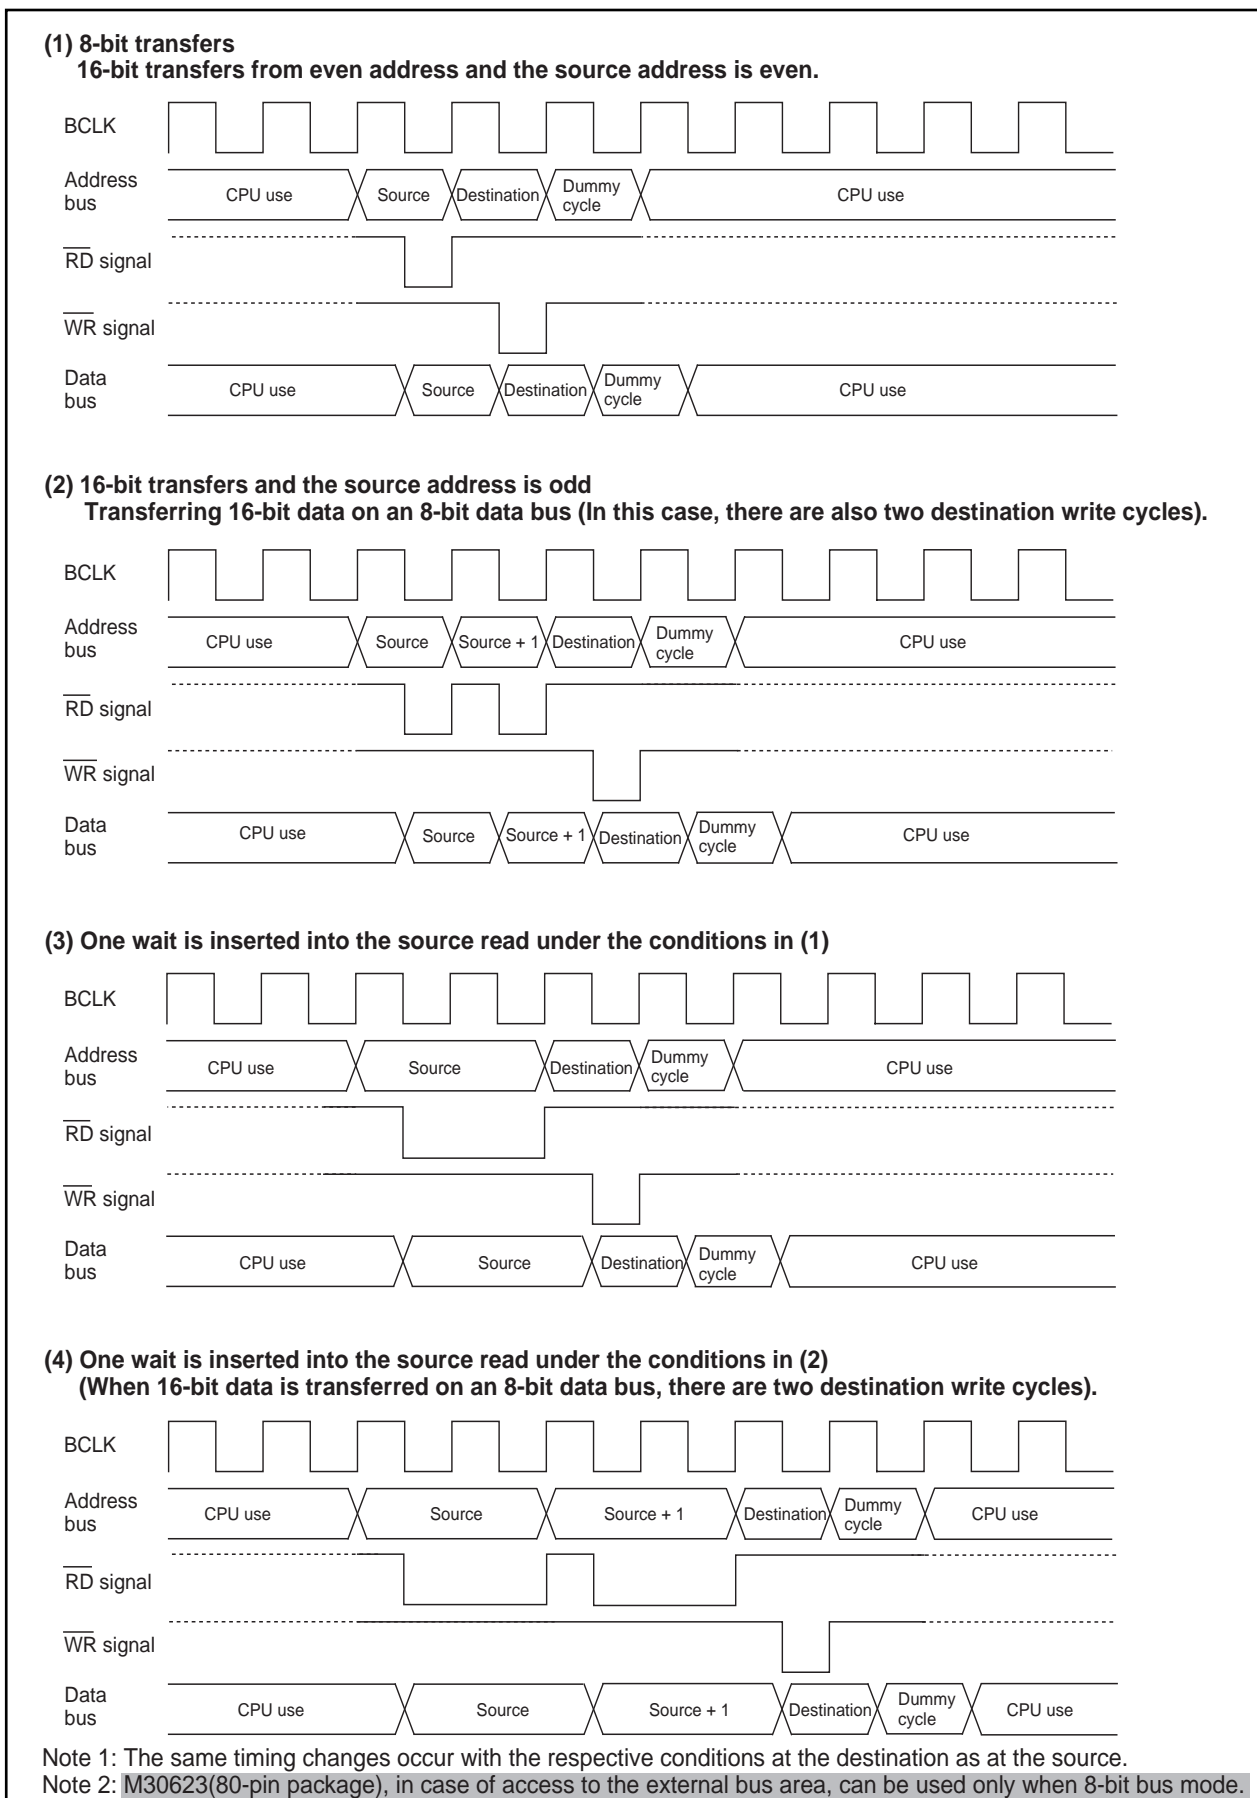

Figure 1.16.5. Example of the transfer cycles for a source read
Figure 1.16.5 shows the example of the transfer cycles for a source read. For convenience, the destination write cycle is shown as one cycle and the source read cycles for the different conditions are shown. In reality, the destination write cycle is subject to the same conditions as the source read cycle, with the transfer cycle changing accordingly. When calculating the transfer cycle, remember to apply the respective conditions to both the destination write cycle and the source read cycle. For example (2) in Figure 1.16.5, if data is being transferred in 16-bit units on an 8-bit bus, two bus cycles are required for both the source read cycle and the destination write cycle.